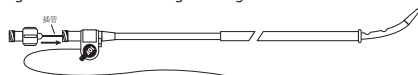

Figure 5
- Slide pigtail straightener along distal portion of catheter to straighten curve prior to placing the stiffening cannula into the catheter. Place the stiffening cannula into the catheter and tighten the luer lock fittings. See Figure 5.